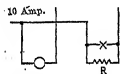

FIG. 53. The incandescent lamp is in parallel with the arc lamp and the resistor.
**Prob. 47-2.** In Fig. 53, the arc lamp has a resistance of 18 ohms, the incandescent lamp has a resistance of 84 ohms and a current of 1.32 amperes. The line carries a current of 10 amperes.